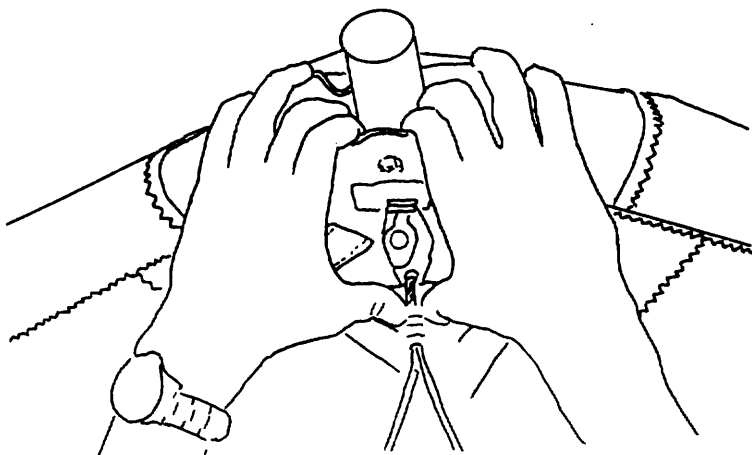

Fig 61
- 3) Detach the bottom front wires at the noseplate by pressing upwards with your thumbs on the "T" handle while pulling down on the nose. (Fig 61)